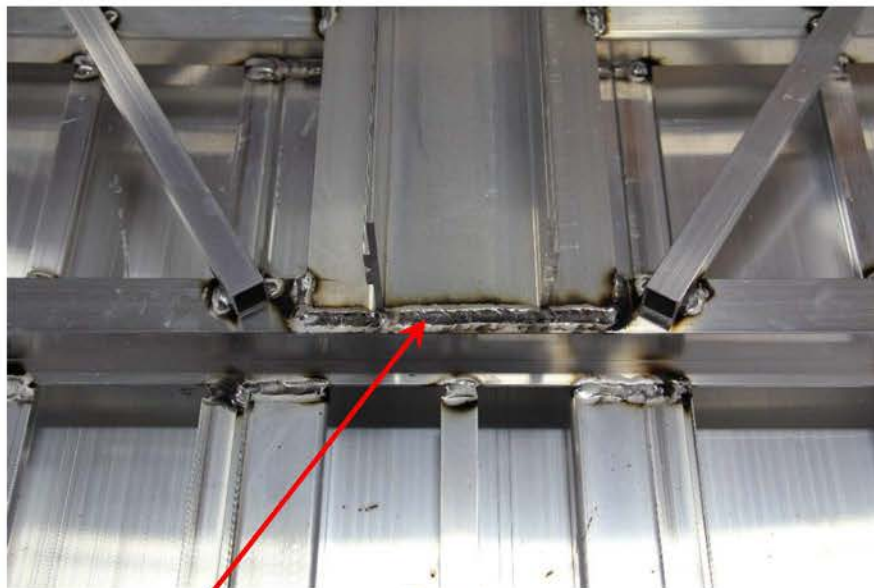

Figure 4
- 3.0 Figures 4 and 5 shows different orientation of tongue retainer. If welds are missing, then add .25” fillet welds as shown See Figure 4 and 5. **Note:** Ensure that wiring harness is not damaged during welding.